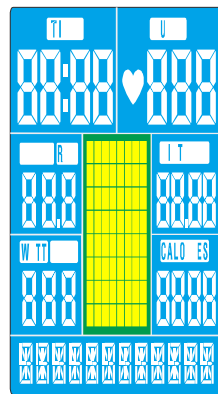
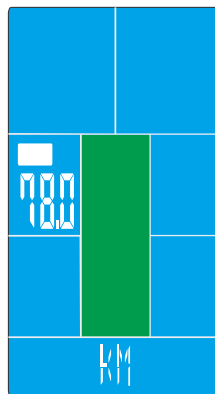
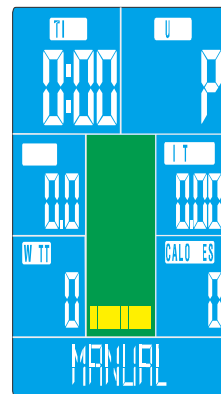

FIGURE 1
FIGURE 2
FIGURE 3
- When POWER ON or hold RESET key for 2s, buzzer will sound 1s and LCD full display for 2 seconds (Figure1). Then display wheel diameter and unit for 1s (Figure2). Then go to Standby mode (Figure3). And the motor has been settled, it must be reversed to zero, then go to LOAD=1 to wait for each setting.
- Enter (Figure3) screen to select the sport mode, selection order MANUAL -> BEGINNER -> ADVANCE -> SPORTY -> CARDIO -> WATT etc sport modes (recyclable).